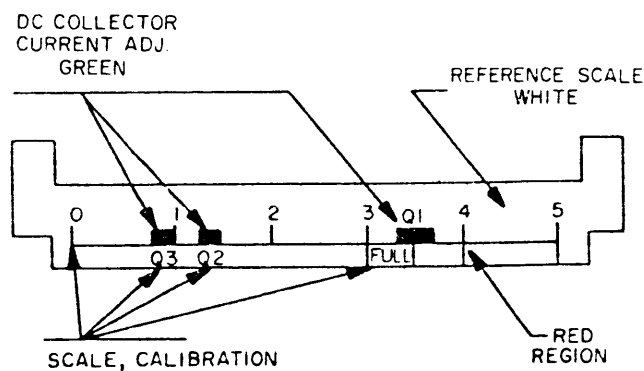

Figure 3-3. Exciter monitor meter scale.
- 3.3.3.10 Verify that the meter indicates in the green region marked Q1. (See figure 3-3-).